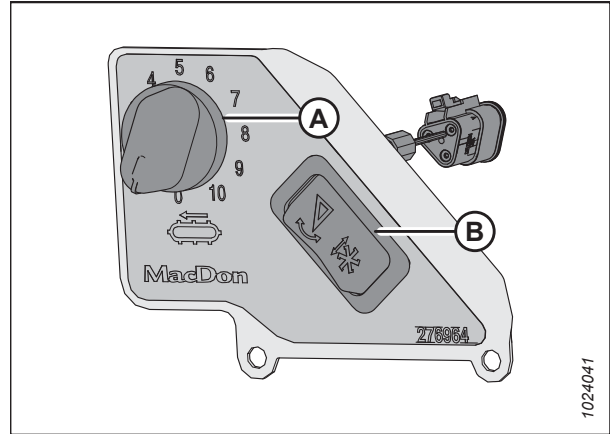

Figure 9.7: In-Cab Side Draper Speed Control
Switch (B) in Figure 9.7, page 502 allows the operator to switch between the header tilt and reel fore-aft controls..